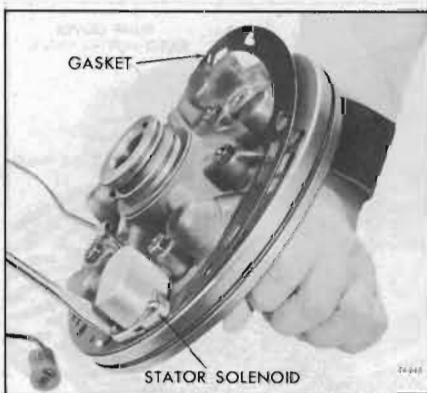

Figure 74-643
14. Attach stator solenoid with screws. See Figure 74-643.